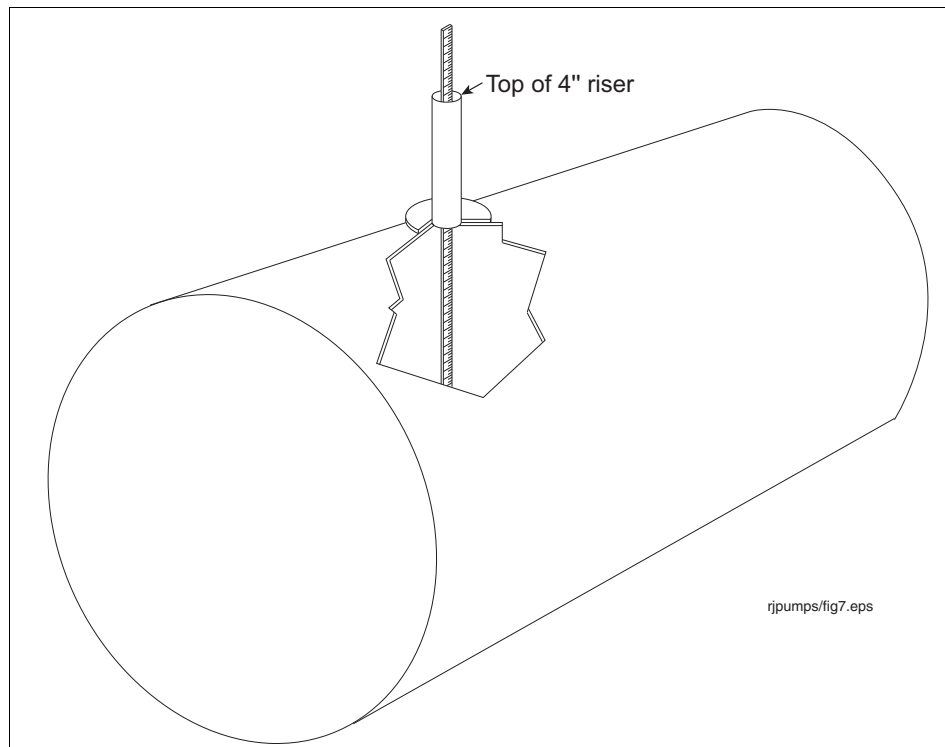

Figure 8. Measuring Tank
2. Measure the distance from the bottom of the tank to the top of the 4-inch riser pipe as shown in Figure 8.